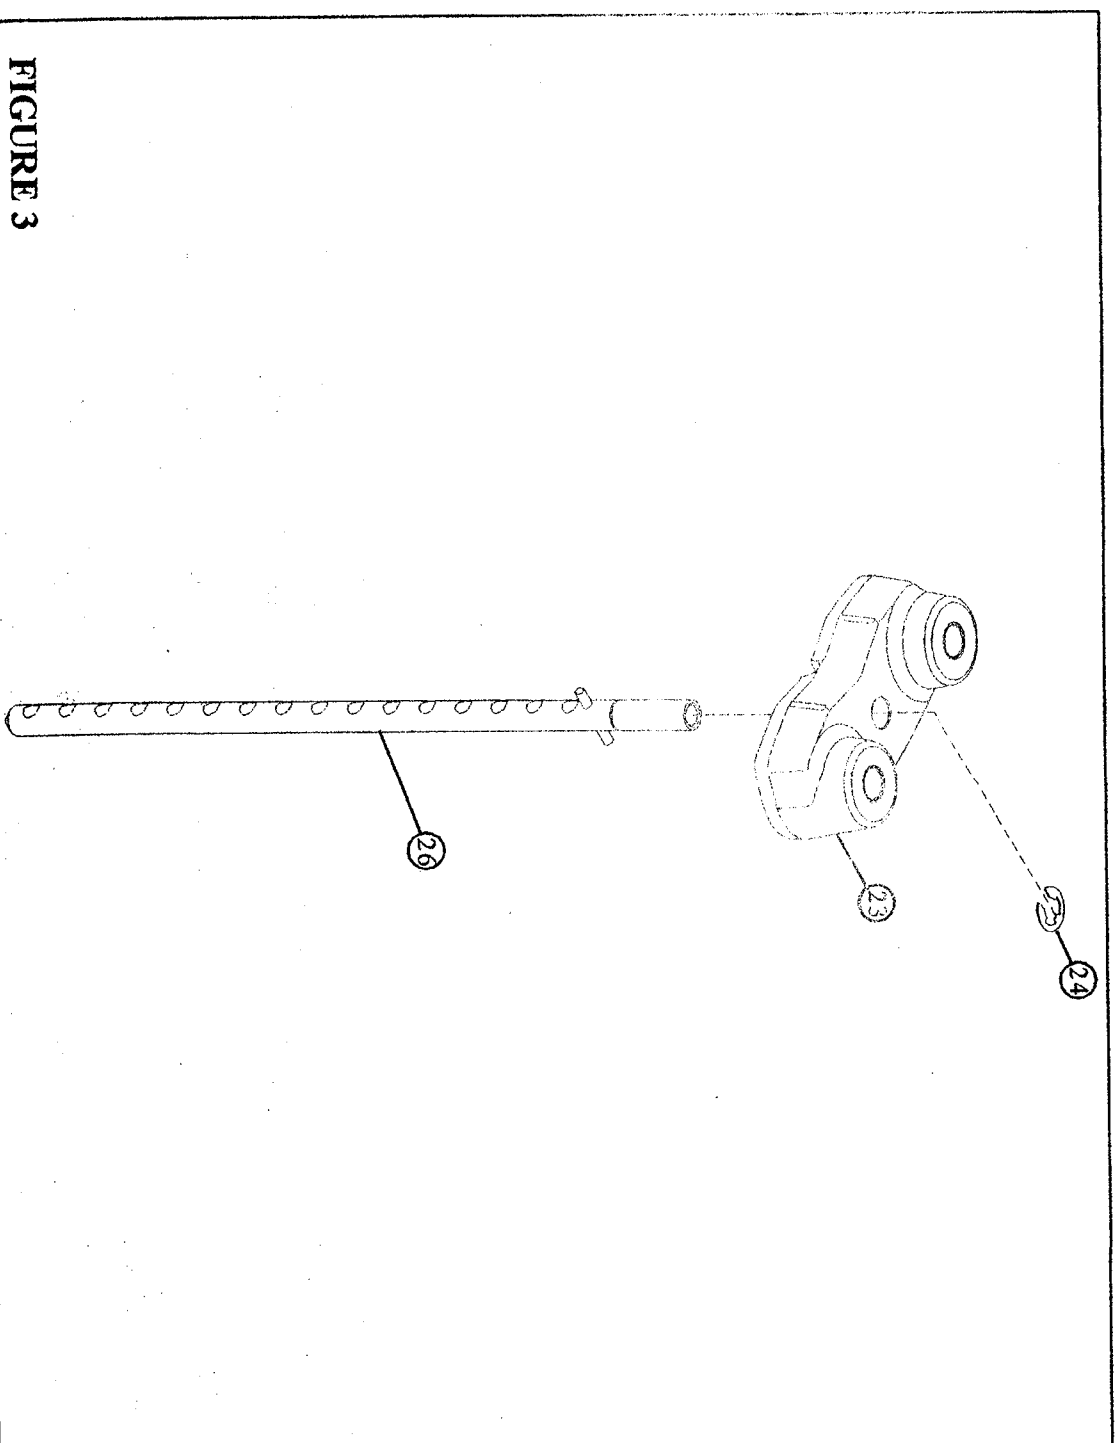

FIGURE 3
- Slide the WEIGHT PLATE SHAFT (26) thru the hole in the HEAD PLATE(23), and lock in place using one E-RING (24) as shown in FIGURE 3.